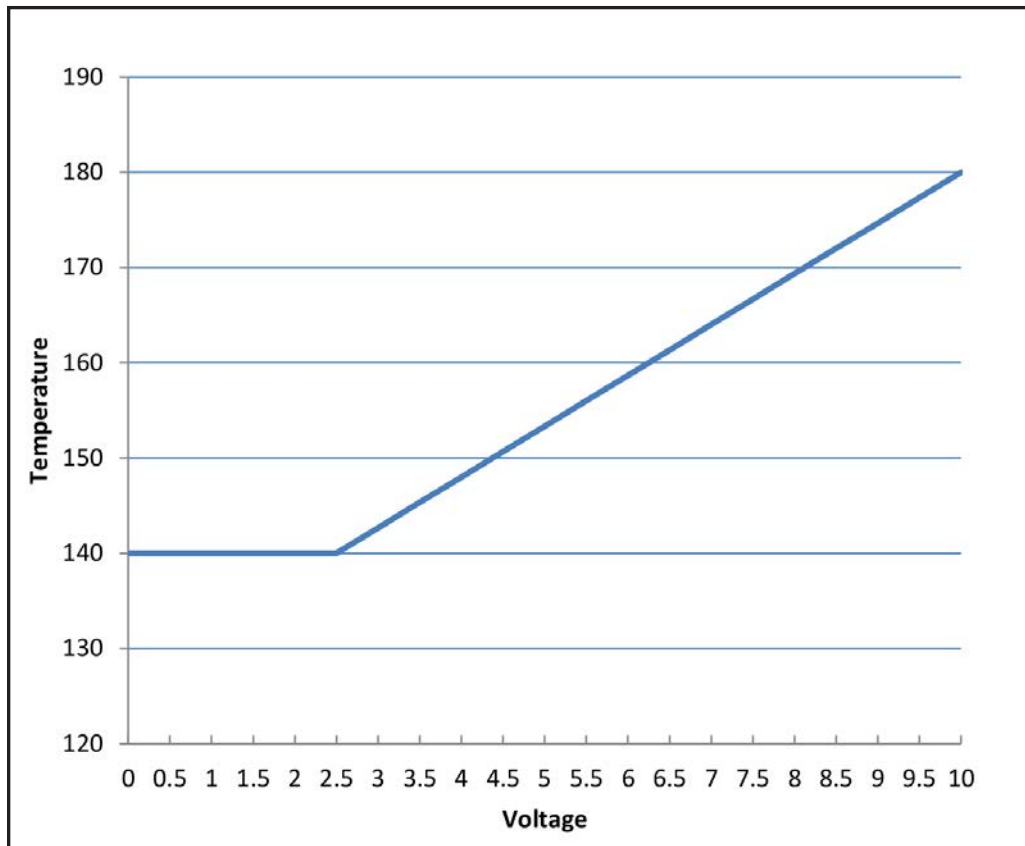

Figure 46. External Set Point Example
- Using the default values for Boiler Max Set Point (180°F), Boiler Min Set Point (140°F), Demand Minimum (2.5VDC), Demand Maximum (10.0VDC), the unit will linearize the set point, as shown in **Figure 46**.